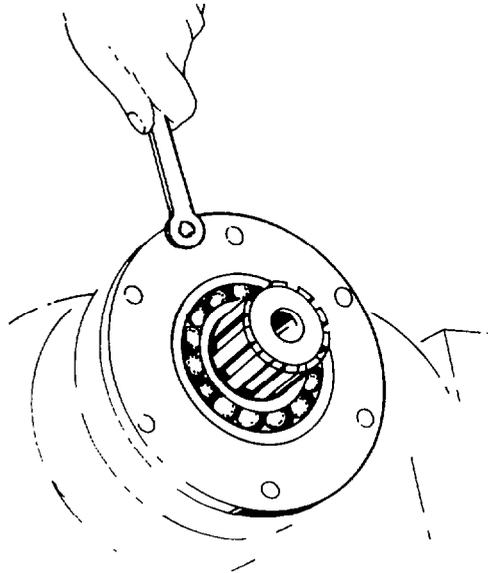

Fig. 269 — Removing Retainer Cover Bolts
- d. Remove the bearing retainer from the lockout bearing by inserting two 7/16 inch — 14 UNC bolts into the threaded holes in the bearing retainer and screwing the bolts in evenly and alternately (see fig. 269).